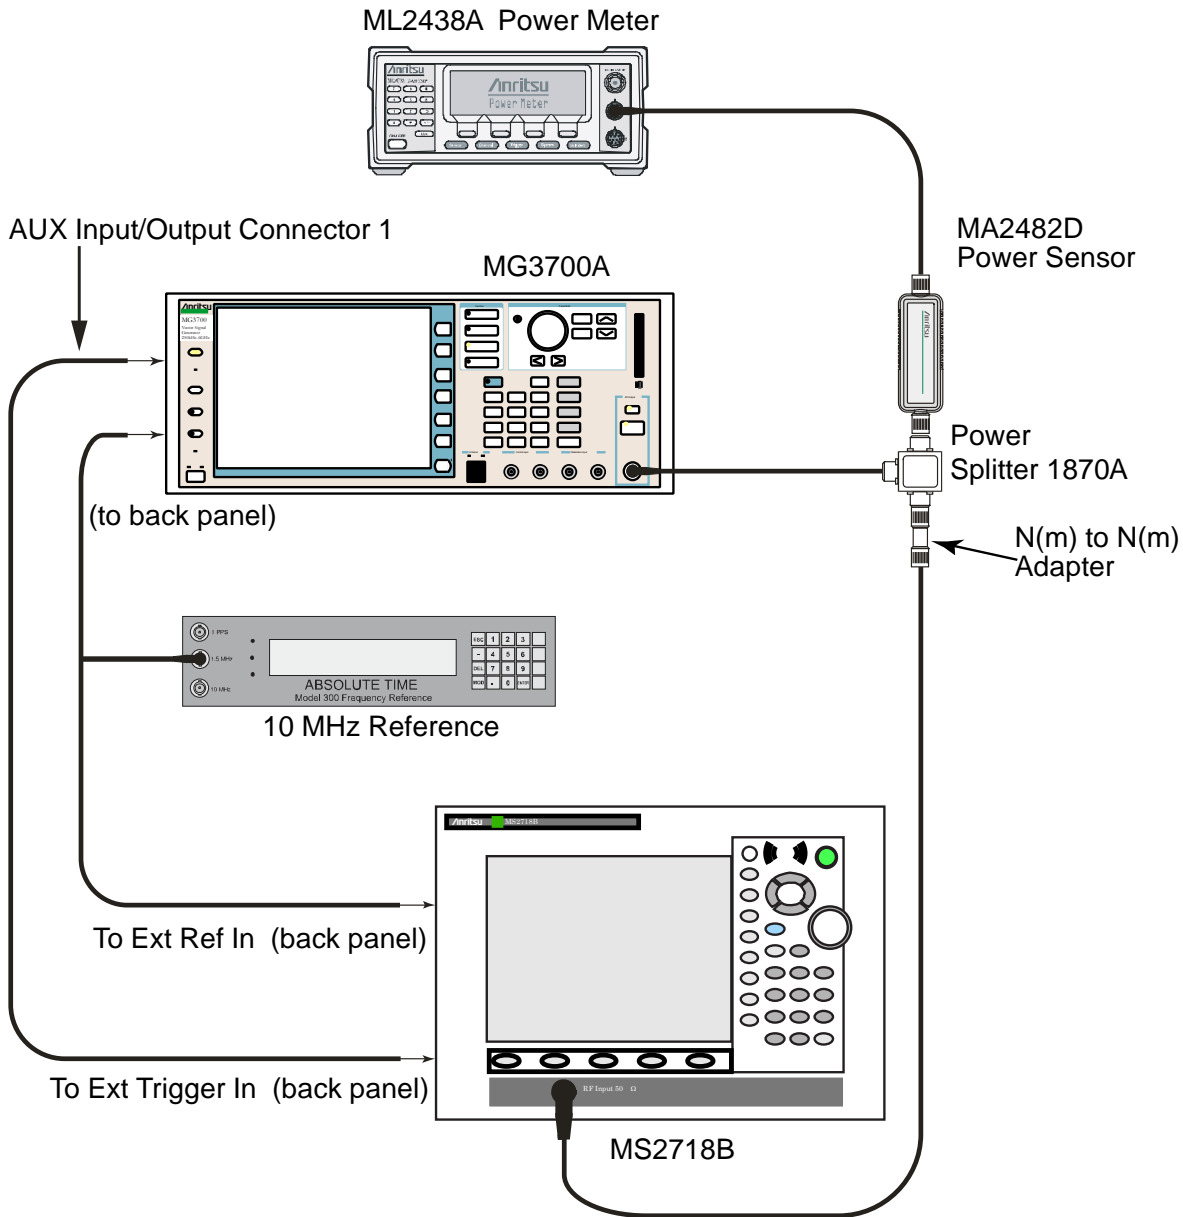

Figure 3-2. CDMA Signal Analyzer Test Setup
1. Connect the equipment as shown in Figure 3-2.
4. Set the MS2718B, MS2719B mode to CDMA Signal Analyzer. Press **Shift** and press **Preset** (1) to preset the MS2718B, MS2719B.
1. Ensure that the equipment settings are unchanged from the previous test. Refer to Figure 3-2.